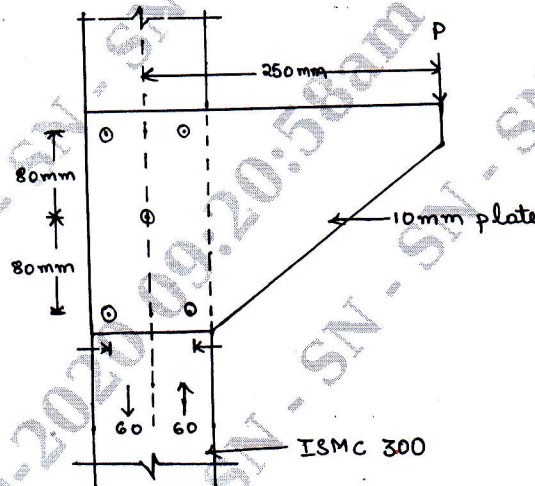

Fig Q2(b)
- b. A bracket plate bolted to a vertical column is loaded as shown in Fig Q2(b). If M20 bolts of grade 4.6 are used, determine the maximum value of factored load 'P' which can be carried safely.